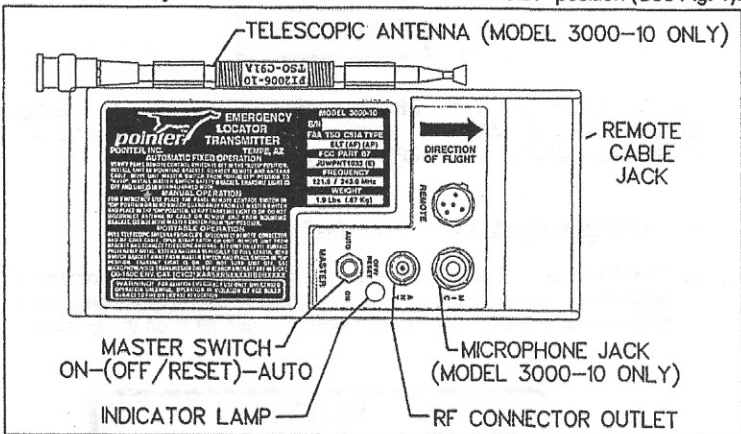

FIGURE 1. POINTER 3000-10,11 OPERATING DETAILS
- 1-4 POINTER ELT (see Figures 1 and 2) consists of:
- Remove POINTER ELT from carton and remove foam guard from master switch. Verify the master switch is in the "OFF/RESET" position (See Fig. 1).